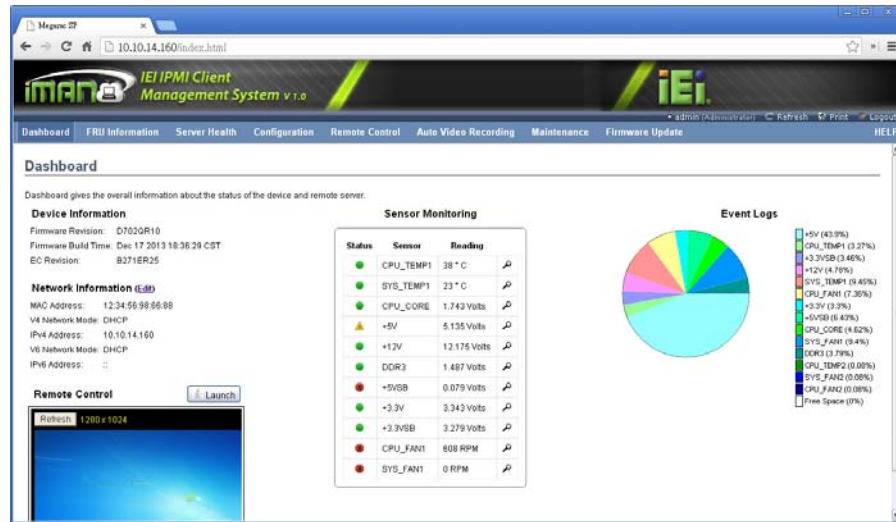

Figure 4-27: IEI iMAN Web GUI
**Step 6:** The IEI iMAN Web GUI appears (**Figure 4-27**).